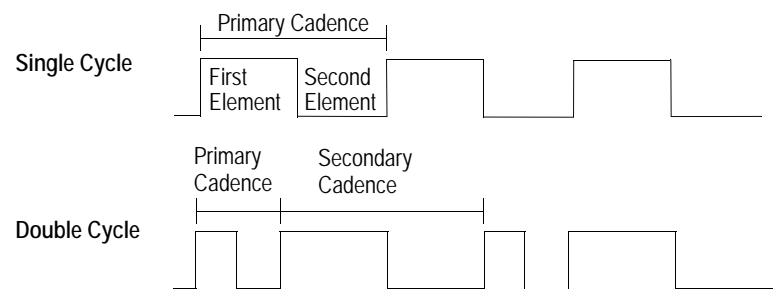

Figure 1. Primary and Secondary Cadences
- A ***cadence*** is a repeating sequence of sounds. Each element (sound period) in the cadence has distinct frequencies. The elements can also be elements of silence with frequencies of zero Hz. Tones can either have a single cycle or a double cycle. A double cycle tone comprises a primary and secondary cadence, as shown in ***Figure 1 on page 160***.